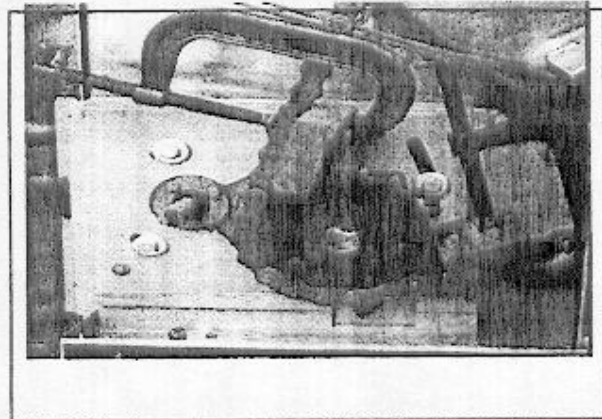

FIGURE 2
- ☛ Use wood or metal restraints held by C-clamps to block chain drives on both sides of the small sprocket, so an off-center weight distribution in the cylinder will not cause it to drift or turn by itself in either direction. See FIGURE 2.
- 5. RESTRAIN THE TUNNEL CHAIN DRIVES SO THE TUNNEL CANNOT DRIFT OR TURN BY ITSELF IN EITHER DIRECTION.** See FIGURE 2.